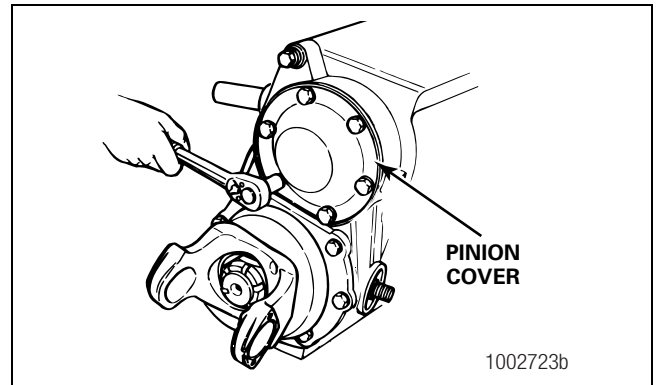

Figure 3.18
2. Remove the capscrews and the washers that fasten the drive pinion cover to the differential carrier. Remove the cover. Remove all gasket material from the cover and the differential carrier. Figure 3.18.